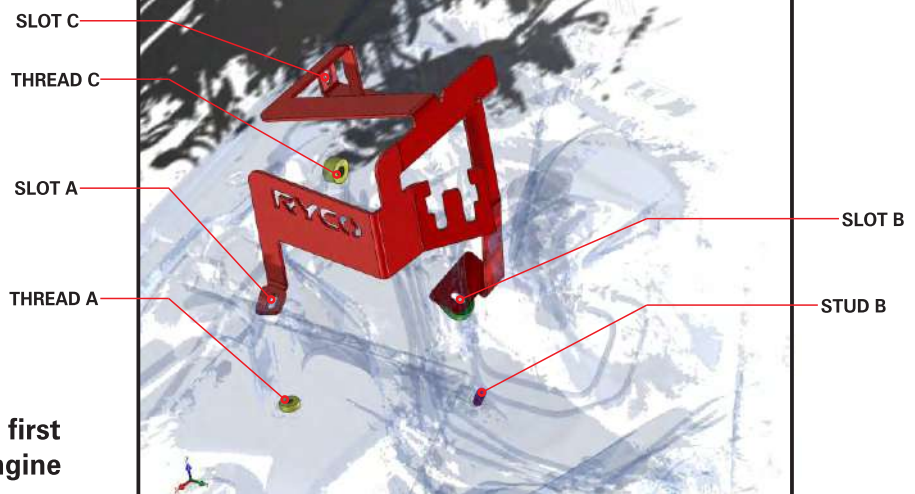

FIG. 9B FB9810CC SLOT/THREAD/STUD LOCATIONS
6. Referring to FIG. 9B, we recommend first engaging the bracket Slot B on to engine Stud B under the brake pipes. Then proceed to line up Slot A with Thread A behind the air box. Finally, line up Slot C to be concentric with Thread C behind the ABS Module.